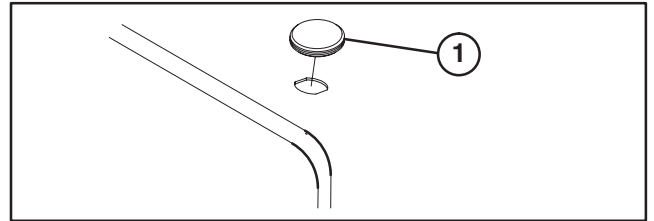

Figure 1
1. Remove plug from hole in left front corner of hood (Fig. 1).